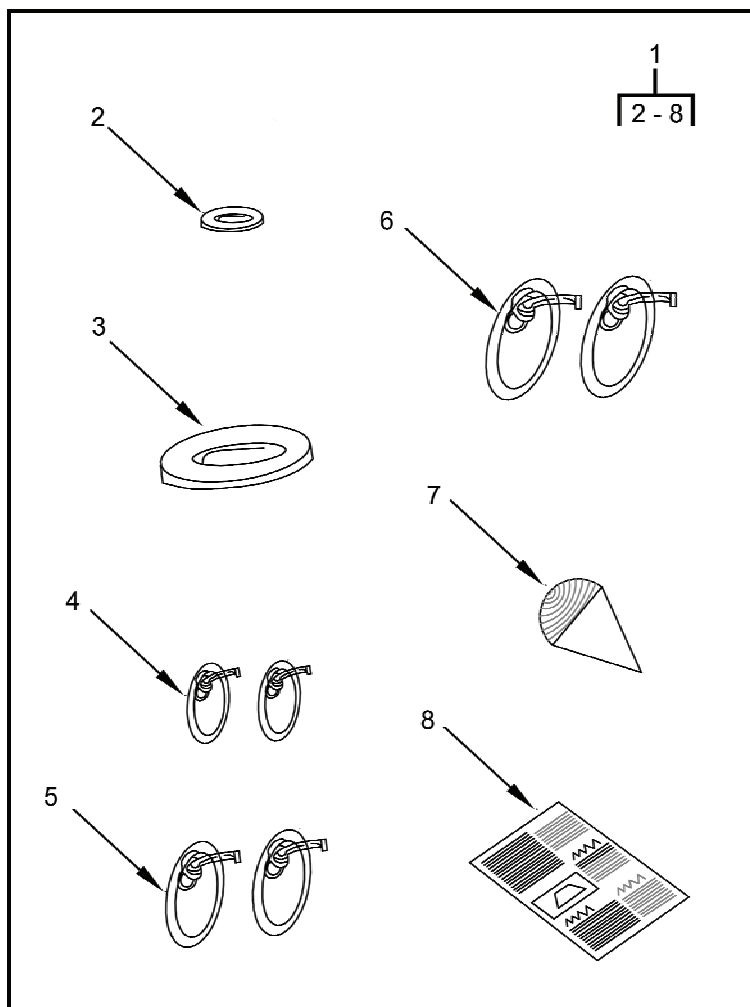

Figure 1. Repair Kit Inspection.
4. Refer to Figure 1 and inspect Repair Kit for:
- a. Torn or cracked gaskets (Figure 1, Items 2, 3).
- b. Missing, cracked or broken wood plugs (Figure 1, Item 7).
- c. Missing patch assemblies (Figure 1, Items 4, 5, 6). Repair kit should contain 3 patch assemblies. Also check patch assemblies for deteriorated rubber, stripped threads and missing parts.